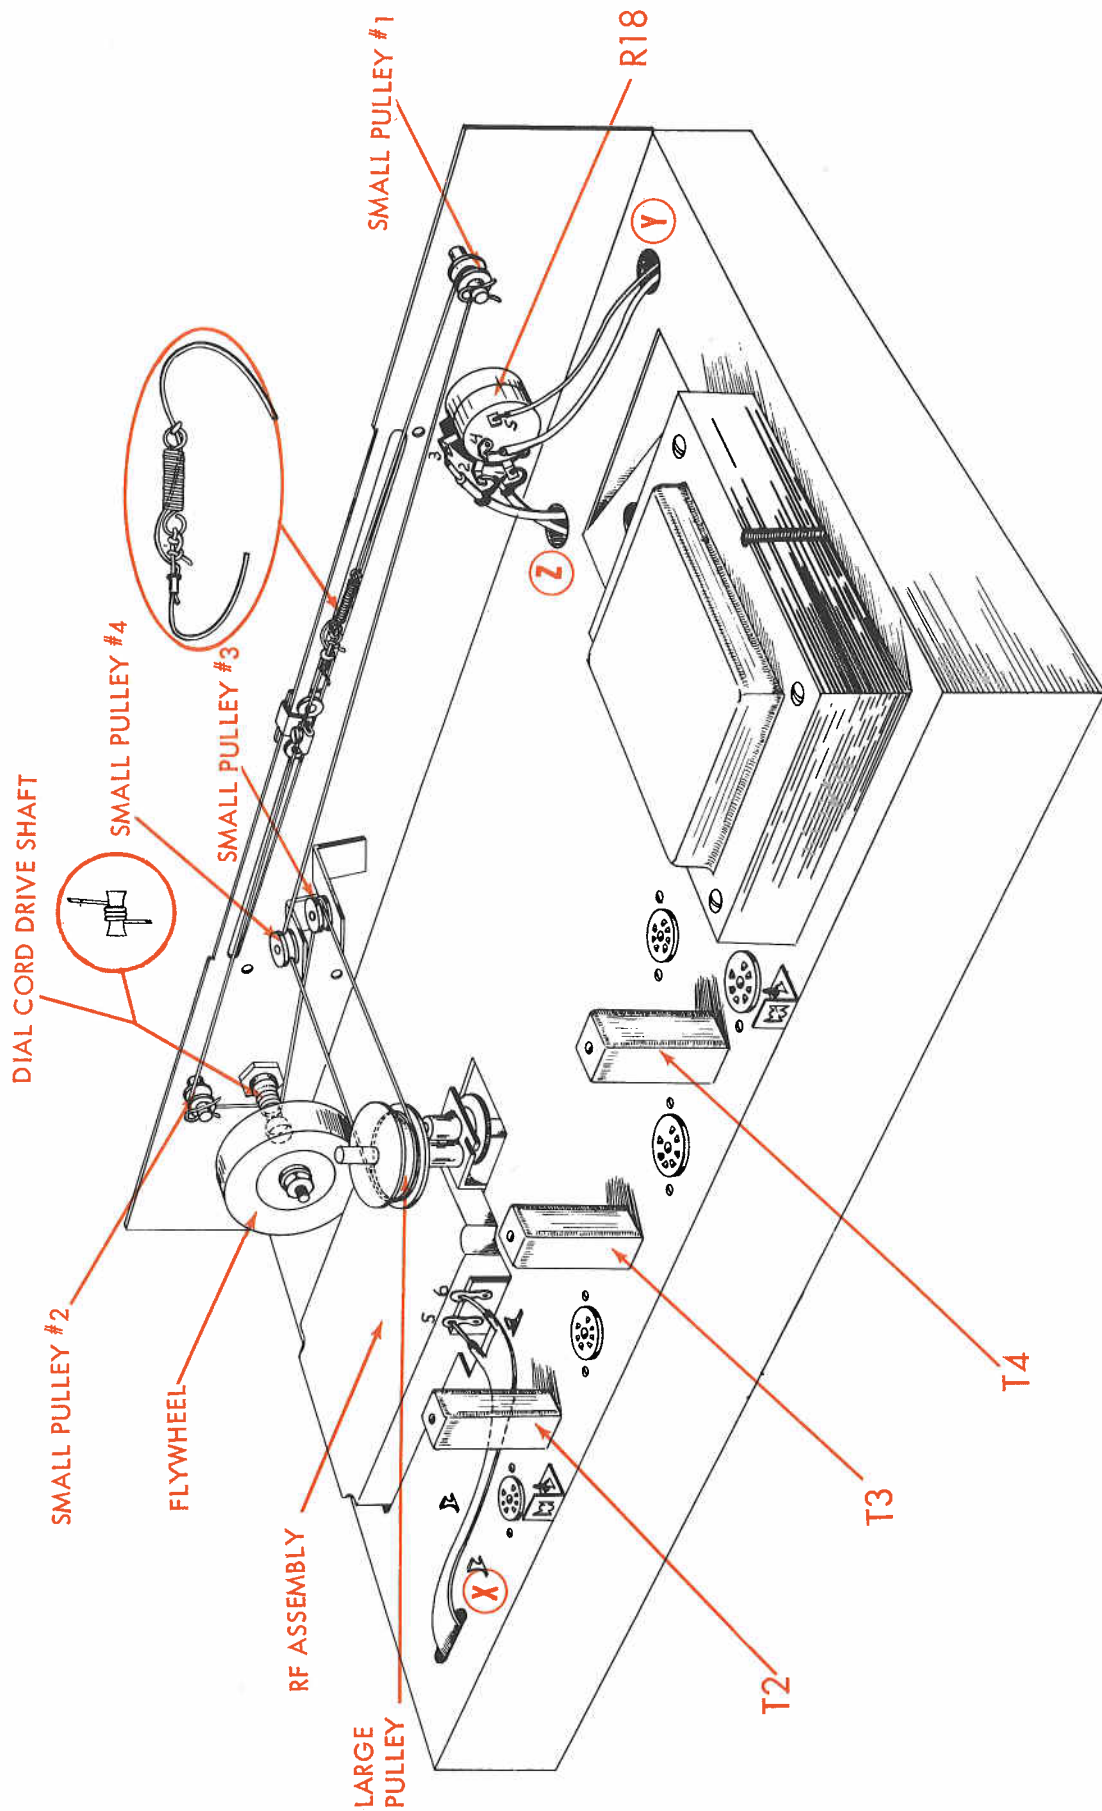

Fig. 9
1. () Fig. 9. Tie one end of the dial cord to the spiral tension spring with a double knot*. Place some nail lacquer on the knot and the loose string end coming off the knot to avoid loosening and unraveling. Thread the other end of the dial cord through the eyelet and then slide the eyelet up to the knot. Pass the loose end coming off the knot through the eyelet also. * IMPORTANT NOTE: Make the double knot so that no more than 1/2" of loose cord end is obtained.
2. (✓) Fig. 9. Remove the cotter pin on small pulley 1 and remove this pulley temporarily. Hook the free end of the spring on the groove in the small pulley 1 shaft.
3. (✓) Fig. 9. Bring the free end of the dial cord over and around the top of small pulley 2 (1/4 turn), and then straight down to the dial cord drive shaft. Wind the dial cord three times around the drive shaft in a clockwise direction as seen from the front. Wind it so that each successive turn is further toward the chassis rear than the turn made before it. Do not allow one turn to cross over another.
4. (✓) Fig. 9. Next, bring the free end of the dial cord over to the front side of small pulley 3 and around it (1/4 turn).
5. (✓) Fig. 9. Now bring the free end of the dial cord straight back to the large pulley and wind it around the large pulley 1 1/2 turns. Do not allow one turn to cross over another.
6. (✓) Fig. 9. Next, bring the free end of the dial cord straight forward to small pulley 4 and around it (1/4 turn).
7. () Fig. 9. Now bring the free end of the dial cord straight left, back to the location of small pulley 1. Unhook the spring from the small pulley 1 shaft and then use the left hand to hold both ends of the dial cord taut. With the right hand, restore small pulley 1 to its shaft.
8. () Fig. 9. Now pass the spring-attached end of the dial cord to the right hand and with the left hand pass the free end of the dial cord under and around small pulley 1 (1/2 turn). Now adjust the position of whole dial cord so that the free end of the spring is from 1/2" to 3/4" away from small pulley 1 with no slack in the cord and little extension of the spring.
9. (✓) Fig. 9. Next, pass the free end of the dial cord through the hook on the free end of the spring and make a loose, temporary knot.
10. (✓) Fig. 9. Now, move the tuning eye carriage to the extreme left hand side of the slot (88 mc end). Note that the dial cord spring should be situated about mid-way between the tuning-eye carriage and small pulley 1. Loosen the screw and washer at the top of the tuning eye carriage and slip the upper dial cord string under the forward end of the washer. Re-tighten the screw to fasten the tuning eye carriage to the dial cord.
11. (✓) Fig. 9. Unfasten the temporary knot made in step 9 but leave the dial cord threaded through the spring end. Pull the free end of the dial cord taut until the spring is extended 1/16 to 1/8". Mark the point of contact between spring and dial cord under this condition with a piece of tape or a light crayon. Now disengage the dial cord from small pulley 1 and fasten the dial cord to the spring at the point marked with a single knot. Next, remove small pulley 1 from its shaft to engage the dial cord and then replace it on the shaft with the dial cord engaged. Check to see that the spring is extended to 1/16" to 1/8" as originally intended. If the desired spring extension is not obtained, then loosen the knot and move it away from or towards the loose end of the dial cord as required to increase or decrease the tension. When the desired point is reached, make an additional knot to avoid any slipping and then place some nail lacquer or shellac both on the knot and the loose string end. Then thread the loose cord end through the inside of the spring and through the eyelet on the other side. Draw the loose cord end through the eyelet until there is just a little slack and then crimp the eyelet closed with a long-nose pliers. This will prevent ultimate relaxation of the spring due to over-stretching.
12. (✓) Fig. 9. Now turn the dial cord drive shaft clockwise until the center of the tuning carriage is set at 108 mc on the dial*. Remove small pulley 1 from its shaft temporarily and hook the dial cord over the bare shaft itself. Then lift up the large pulley for clearance (to avoid friction), and while holding the "front-end" (RF assembly) drive shaft stationary, turn the large pulley until the set screw hole faces to the rear. Then hold the large pulley stationary and turn the "front-end" (RF assembly) drive shaft maximum clockwise without forcing. Now, with the large pulley resting without pressure on the fibre washer beneath it, tighten the set screw in the large pulley. Finally, unhook the dial cord from the bare shaft of small pulley 1. Replace the dial cord around small pulley 1 and restore it to its drive shaft; then fasten small pulley 1 in place with the cotter pin. If the tuning eye carriage has moved from the 108 mc position during these steps, it may now be corrected by loosening the screw fastening it to the dial cord and re-positioning the carriage before tightening the screw again.
13. () Fig. 9. The dial cord stringing is now completed. Check to see that there is no crossing over of the cord between small pulley 1 and small pulley 2, that there is no crossing over of turns on the dial cord drive shaft or the large pulley, and that the dial cord is actually seated in the groove of each of the smaller pulleys.